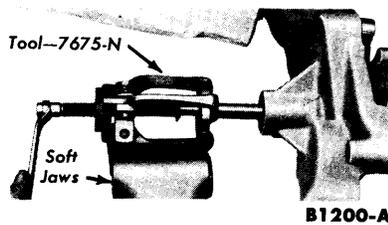

FIG. 1—Hub Removal
1. Remove the back plate and gasket from the water pump. Remove the hub from the impeller shaft (Fig. 1).